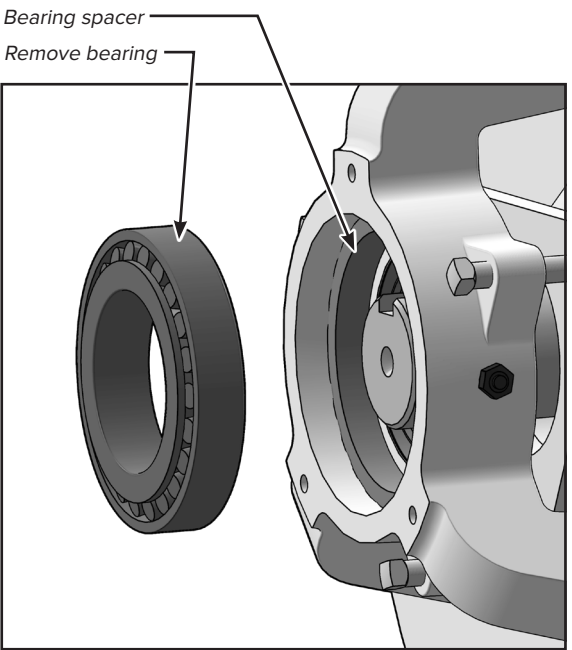

FIGURE 13
12. Pull bearing from endplate bearing support (figure 13).
13. Slide bearing spacer out of bearing support (figure 13).